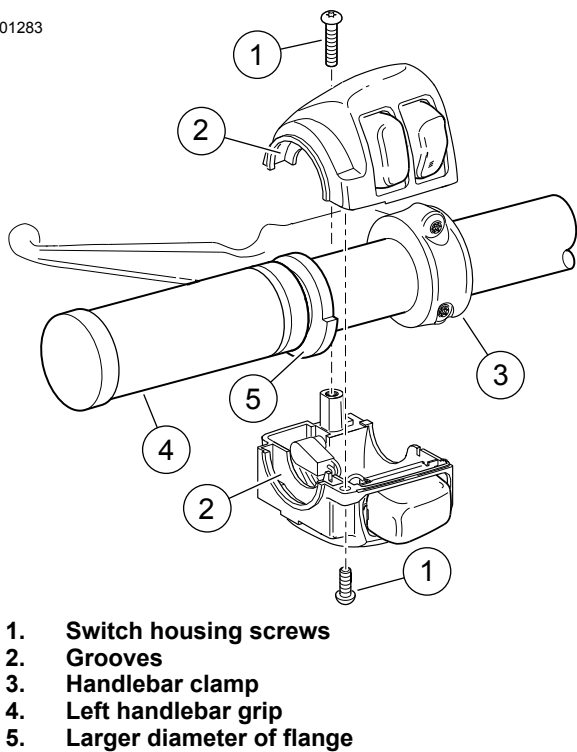

Figure 1. Left Handlebar Switch Housing
1. See Figure 1. Remove the upper and lower switch housing screws (1).
2. Loosen the upper screw securing the handlebar clamp (3) to the clutch lever bracket.